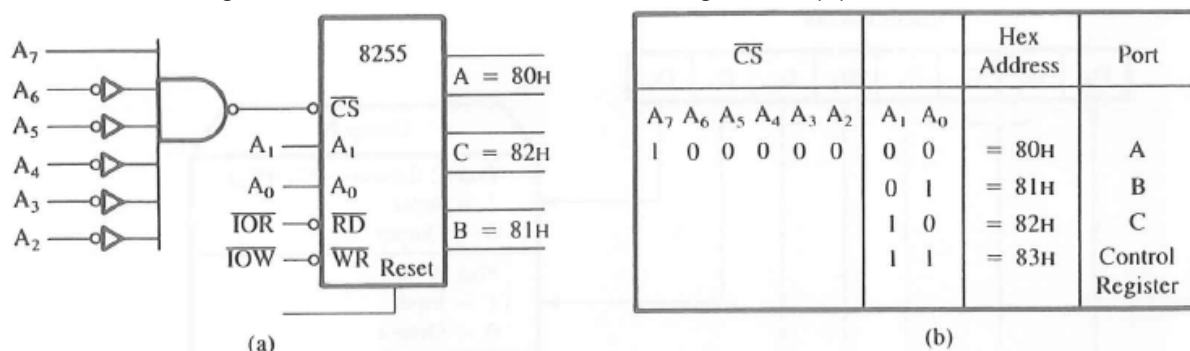

Figure 3.3(a) 8255A Chip Select Logic and (b) I/O Port Addresses
- As an example, the port addresses in figure 3.3(a) are determined by the \overline{CS} , A_0 and A_1 lines.
- When these signals are combined with A_0 and A_1 the port addresses range from 80H to 83H, as shown in figure 3.3(b).